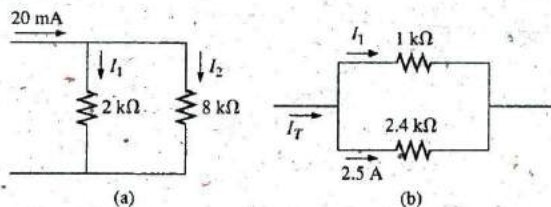

FIG. 6.100
31. a. Determine one of the unknown currents of Fig. 6.100 using the current divider rule.